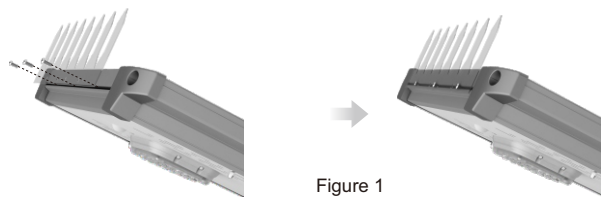

Figure 1
- 1 **Bird spike:** Use 3 self-tapping screws to fix the bird spike along the rim of the top of the light. (See Figure 1)